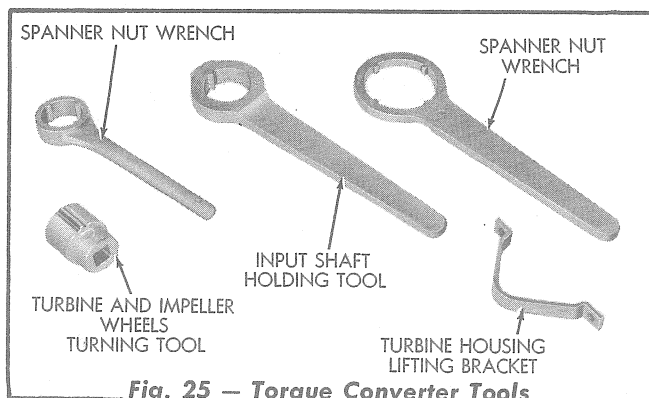

Fig. 25 — Torque Converter Tools
5. Unlock and remove the turbine wheel retaining nut (spanner nut) from the hub of the turbine wheel, using tools similar to the ones shown in Figs. 25 and 26. **CAUTION:** Do not attempt to hold the turbine wheel from turning by inserting anything in the blades of the turbine wheel. The blades of the turbine wheel are accurately located and any disturbance of their location or damage to them will affect the efficiency of the torque converter.
10. Unlock the input shaft nut located on the rear of the input shaft. Using tools similar to the ones shown in Figs. 25 and 29 remove the input shaft nut. **CAUTION:** When removing the input shaft nut, do not attempt to hold the impeller wheel from turning by inserting anything in the blades of the wheel, as to do so will damage the blades.
13. Unlock the bearing retaining nut and using tools similar to the ones shown in Figs. 25 and 27, remove the impeller wheel retaining nut from the hub of the impeller wheel, being careful not to damage the impeller wheel while performing this operation. NOTE: On tractors prior to Serial No. 1879, remove the spacer from the impeller hub.